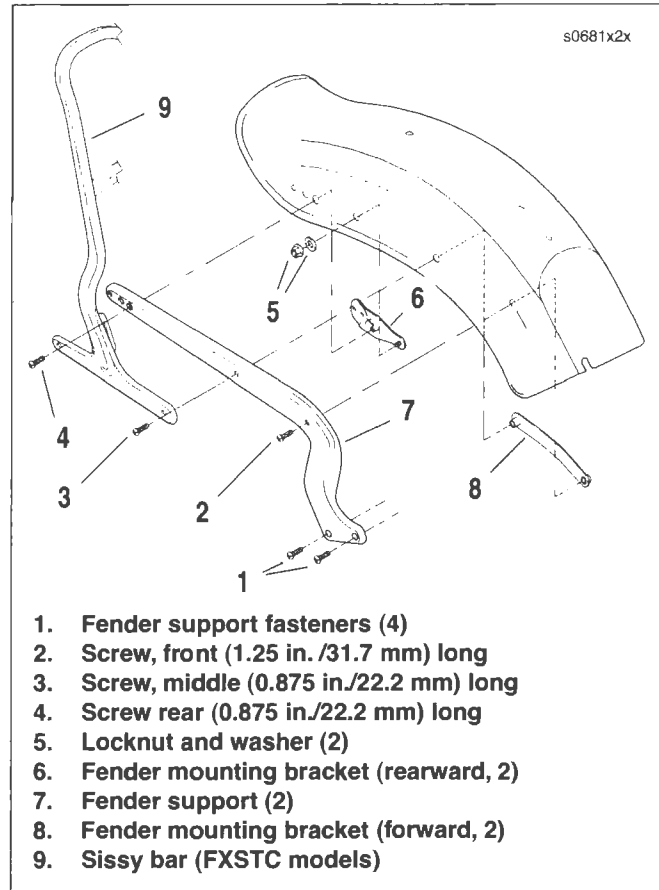

Figure 2-134. Rear Fender: FXST, FXSTB and FXSTC
7. See Figure 2-134. Loosen but do not remove fender support fasteners (1).
8. Remove front fender screw (2) from front fender mounting bracket (8).
9. Remove middle fender mounting screw (3) from forward fender mounting bracket.
10. Remove rear fender mounting screw (4) from rearward fender mounting bracket (6).
12. Remove fender support fasteners and fender support (7).
2. See Figure 2-134. Carefully place the fender into position.